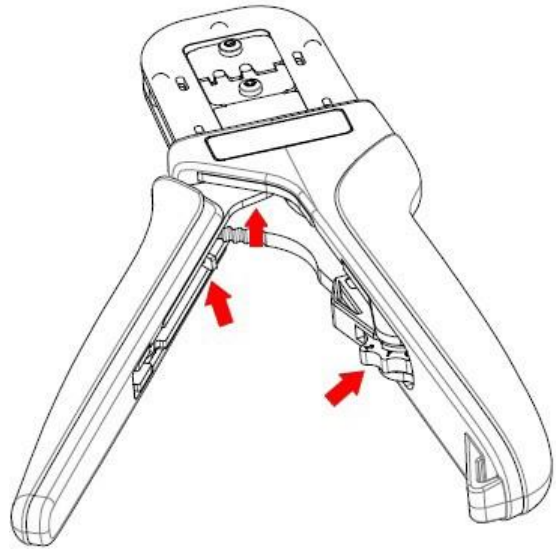

Figure 4
3. Make certain all pins; pivot points and bearing surfaces are protected with a thin coat of high quality machine oil. Do not oil excessively. The tool was engineered for durability but like any other equipment it needs cleaning and lubrication for a maximum service life of trouble free crimping. Light oil (such as 30 weight automotive oil) used at the oil points, every 1,000 crimps or 3 months, will significantly enhance the tool life. See Figure 4.